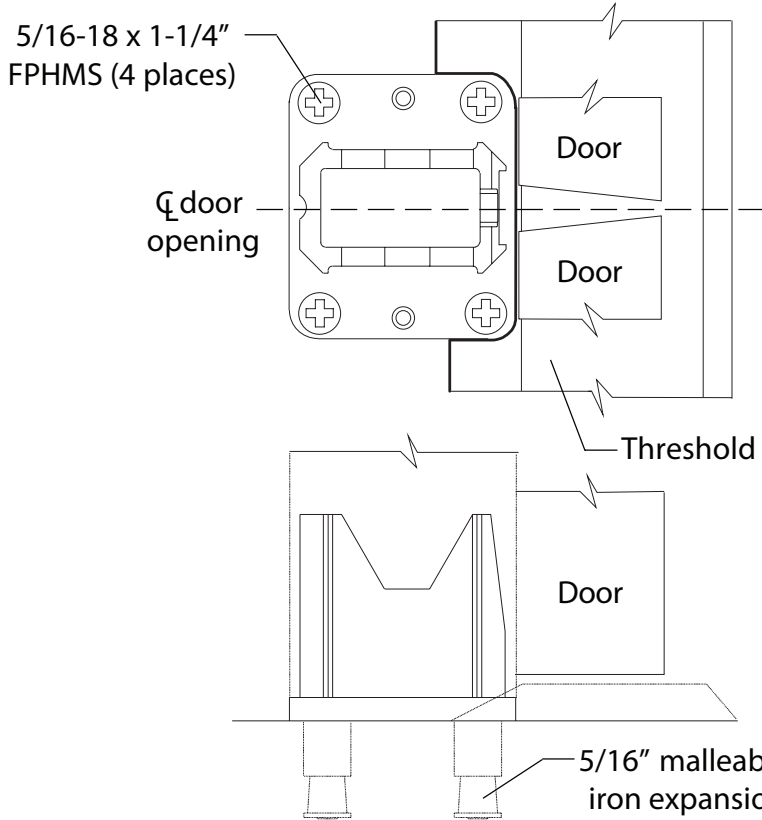

Figure 2
2. Line up and install bottom mullion fitting with center of door opening and flush with closed doors. If threshold is used, it must be cut to fit around the bottom fitting. See Figures 2 and 3.